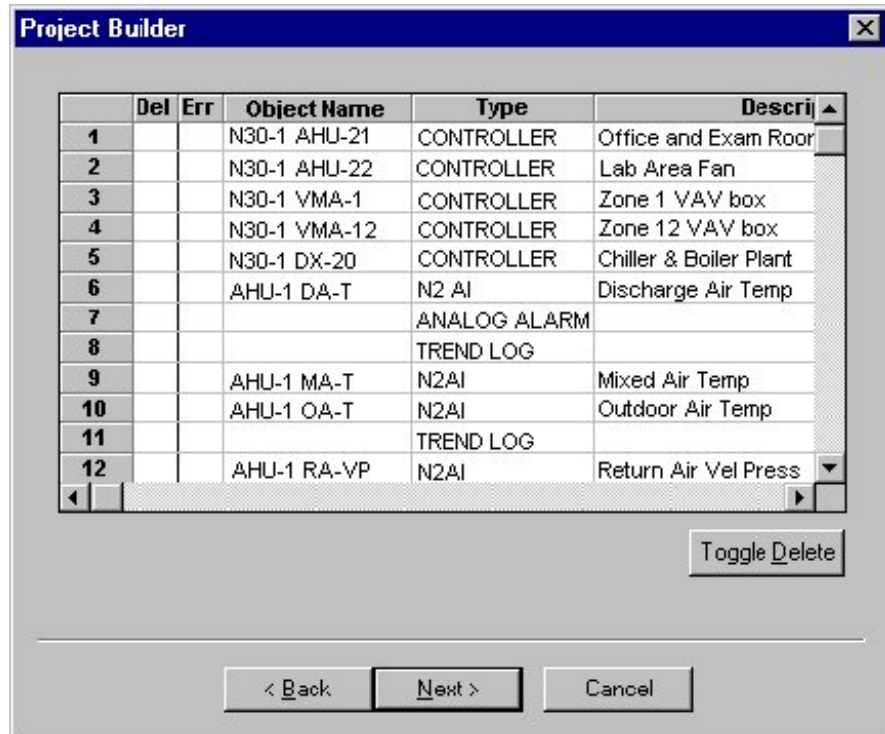

Figure 5-7: AIM Software Schedule Import Spreadsheet
6. Click Close. The AIM Software Schedule Import spreadsheet appears (Figure 5-7).